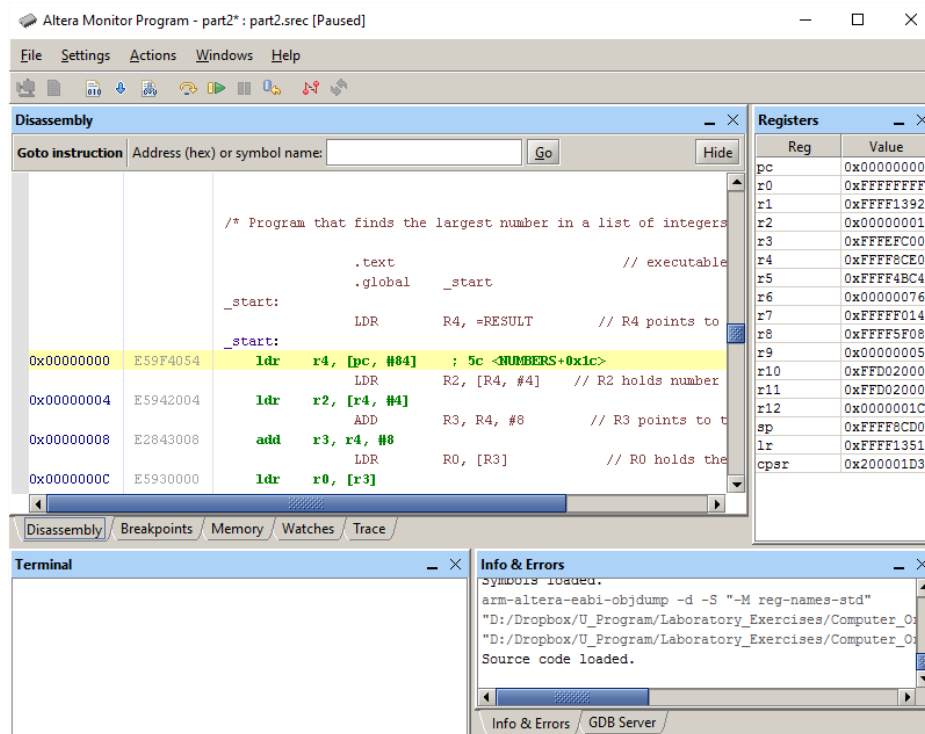

Figure 10: The disassembled view of the program in Figure 9.
4. The Monitor Program will display a disassembled view of the machine code loaded in the memory, as indicated in Figure 10. Note that the pseudo instruction **LDR R4, =RESULT** from your source code has been implemented by using the instruction, **LDR R4, [PC, #84]**. This instruction loads the 32-bit address of the label **RESULT** into register R4. After this instruction has been executed, the content of register R4 will be 0x00000038, because this is the address in the memory of the label **RESULT**.